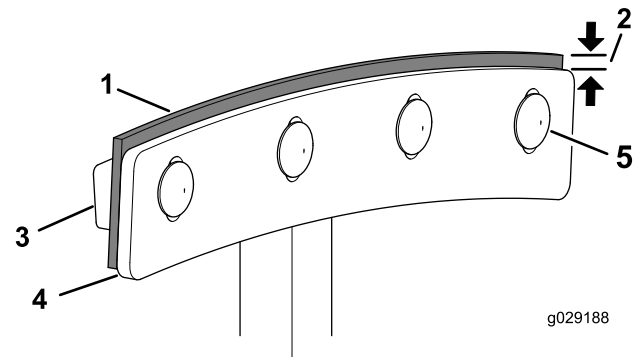

Figure 45
4. Loosen the carriage bolts and flanged locknuts that secure the paddle blade and wiper to the paddle (**Figure 45**).